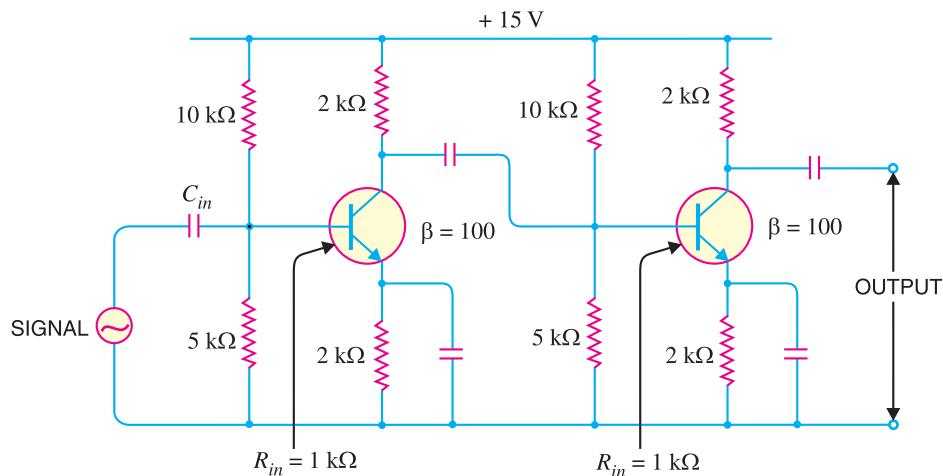

Fig. 11.11
**Example 11.12.** Fig. 11.11 shows two-stage *RC* coupled amplifier. If the input resistance  $R_{in}$  of each stage is  $1k\Omega$ , find : (i) voltage gain of first stage (ii) voltage gain of second stage (iii) total voltage gain.